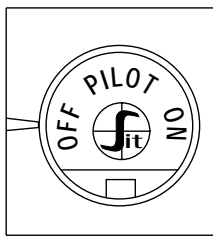

Figure 14
4. Depress control knob in and turn clockwise  to the "OFF" position (*Figure 14*).